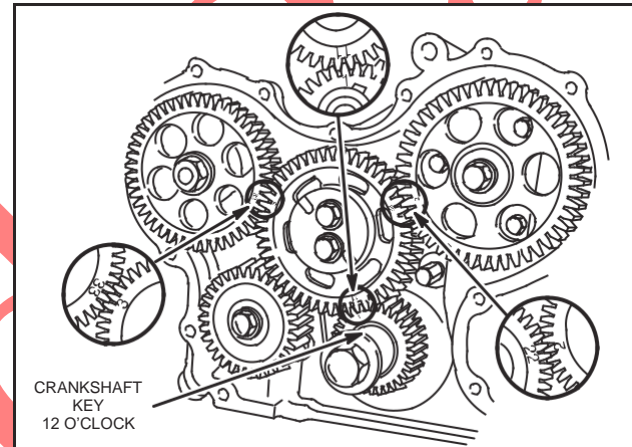

Fig. 18 – Aligning Timing Marks – Typical
5. With crankshaft key at 12 o'clock position, assemble idler gear so that timing mark 11 (AA) is aligned with timing mark 1 (A) on crankshaft gear, timing mark 22 (BB) is aligned with timing mark 2 (B) on camshaft gear, and timing mark 33 (CC) is aligned with timing mark 3 (C) on injector pump gear, as shown in Fig. 18.